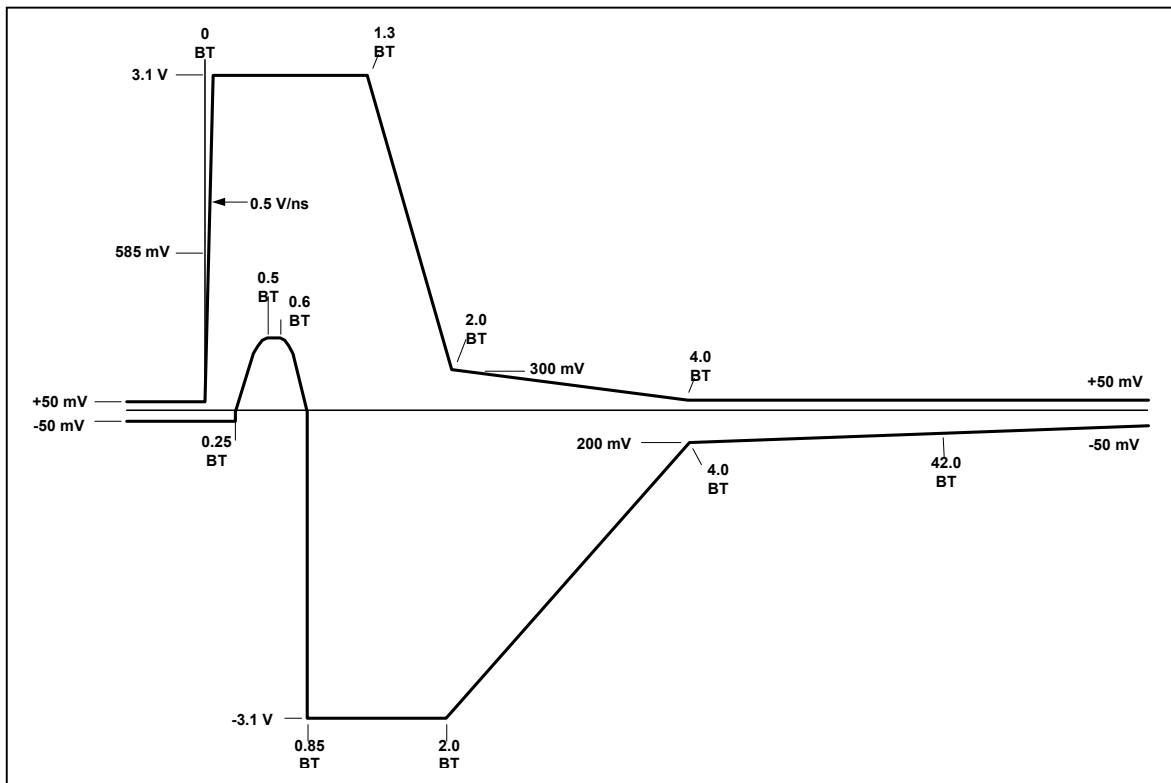
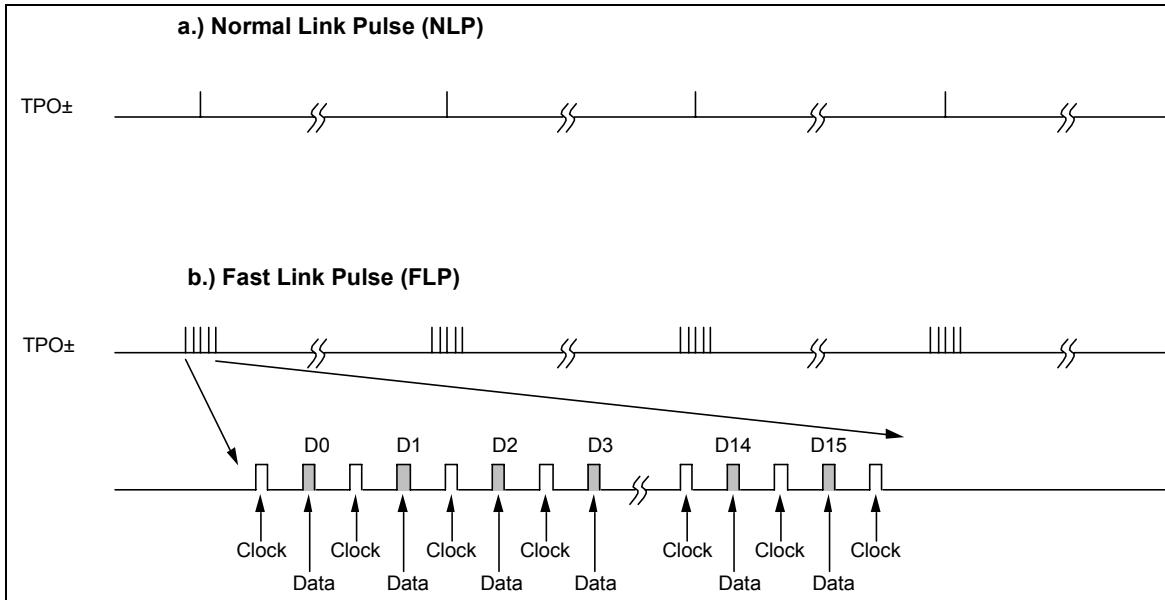

FIGURE 12 - LINK PULSE OUTPUT VOLTAGE TEMPLATE - NLP, FLP
FIGURE 13 - NLP VS. FLP LINK PULSE
The transmit link pulse meets the template defined in IEEE 802.3 Clause 14 and shown in FIGURE 12. Refer to IEEE 802.3 Clause 14 for more details if needed.
As stated previously, the AutoNegotiation algorithm is used for two purposes: (1) To automatically configure the device for either 10/100 Mbps and Half/ Full Duplex modes, and (2) to establish an active link to and from a remote device. The AutoNegotiation algorithm is the same algorithm that is defined in IEEE 802.3 Clause 28. AutoNegotiation uses a burst of link pulses, called fast link pulses and referred to as FLP'S, to pass up to 16 bits of signaling data back and forth between the LAN91C111 and a remote device. The transmit FLP pulses meet the templated specified in IEEE 802.3 and shown in FIGURE 12. A timing diagram contrasting NLP's and FLP's is shown in FIGURE 13.